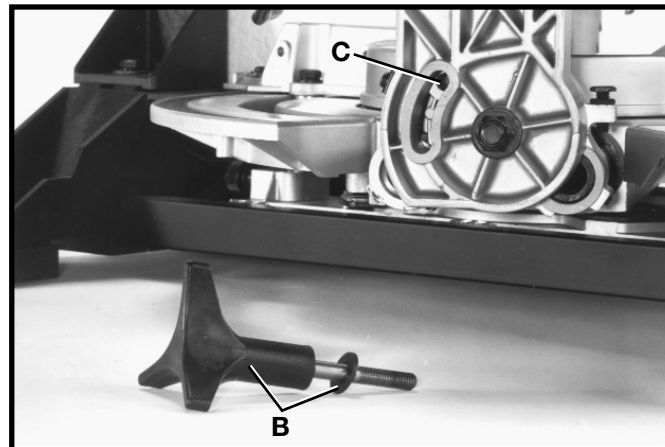
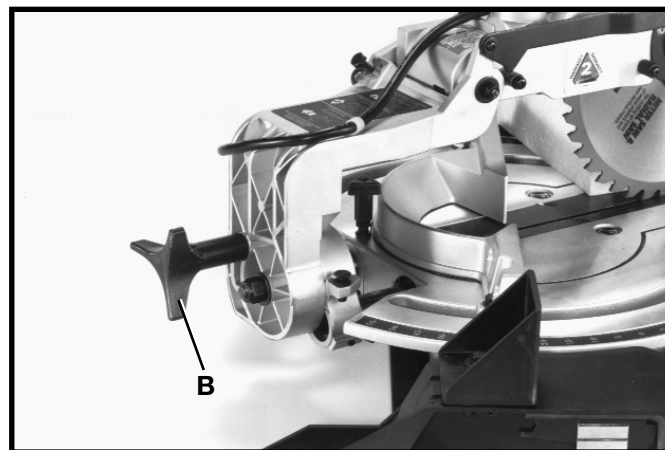

Fig. 13
Fig. 14
3. Find the bevel locking knob with flat washer (B) Fig. 13, supplied with the machine. Thread bevel locking knob and flat washer into hole (C) Fig. 13. Assembled bevel locking knob is shown in (B) Fig. 14. Firmly tighten locking knob.